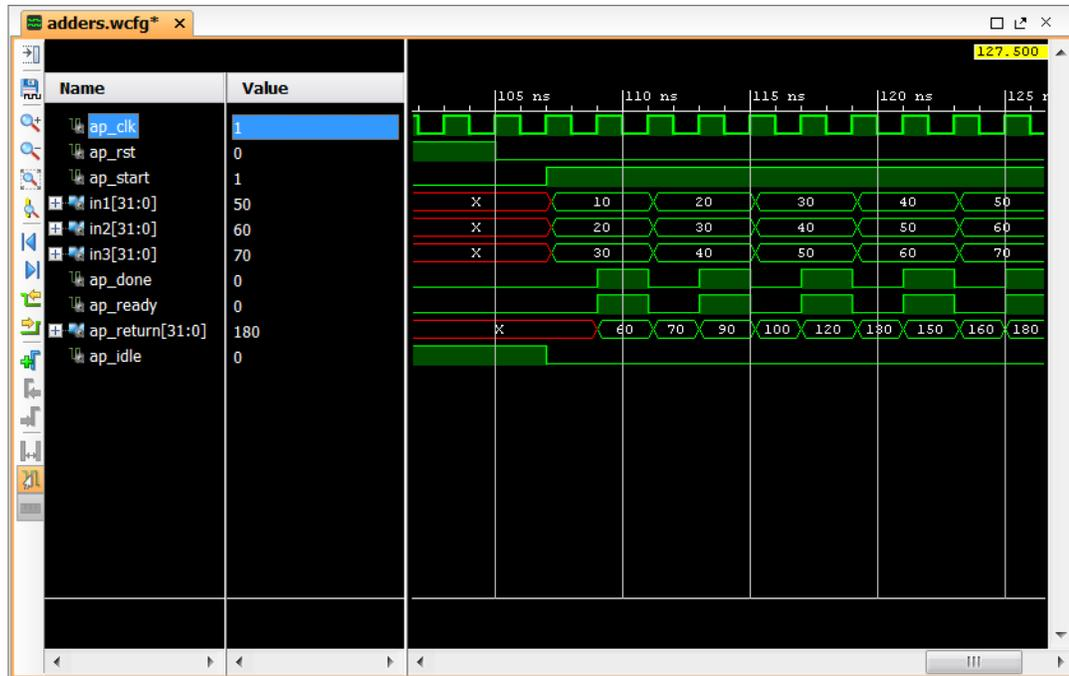

Figure 4-5: RTL Waveforms for Block Protocol Signals
The block-level I/O protocol allows the RTL design to be controlled by additional ports independently of the data I/O ports. This I/O protocol is associated with the function itself, not with any of the data ports. The default block-level I/O protocol is called `ap_ctrl_hs`. Figure 4-5 shows this protocol is associated with the function return value (this is true even if the function has no return value specified in the code).
You can observe the behavior of these signals by viewing the trace file produced by RTL CoSimulation. This is discussed in Chapter 8, RTL Verification tutorial, but Figure 4-5 shows the waveforms for the current synthesis results.
The waveforms in Figure 4-5 show the behavior of the block-level I/O signals.
**Note:** In RTL CoSimulation, all design and port input control signals are always enabled. For example, in Figure 4-5 signal `ap_start` is always high.